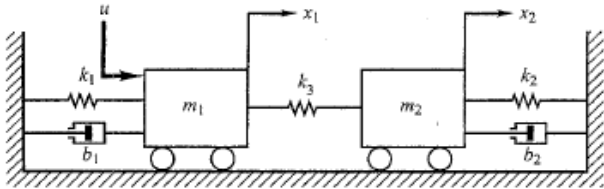

Figure 3-83
32. Obtain the transfer functions $X_1(s)/U(s)$ and $X_2(s)/U(s)$ of the mechanical system shown in Figure 3-83.